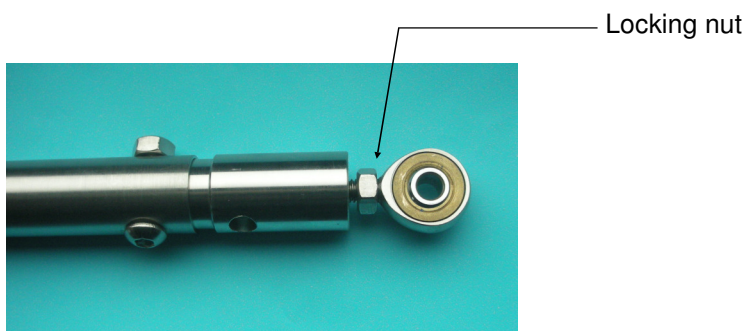

Fig 10 - Spacer bar locking nut
1. Slacken the locking nut (See Fig 10)